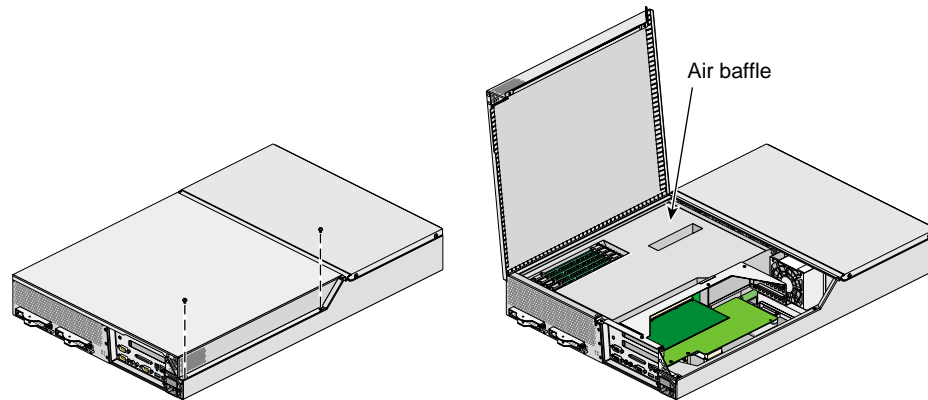

Figure 4-11 Opening Server to Install DIMM
5. To access the DIMMs, remove the two screws shown in Figure 4-11 and lift and remove the hinged cover.